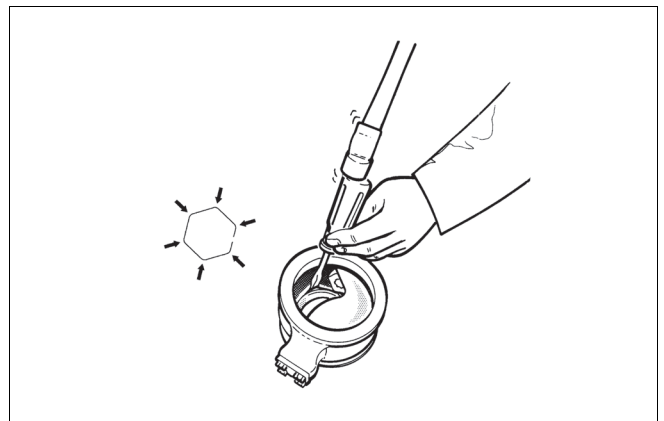
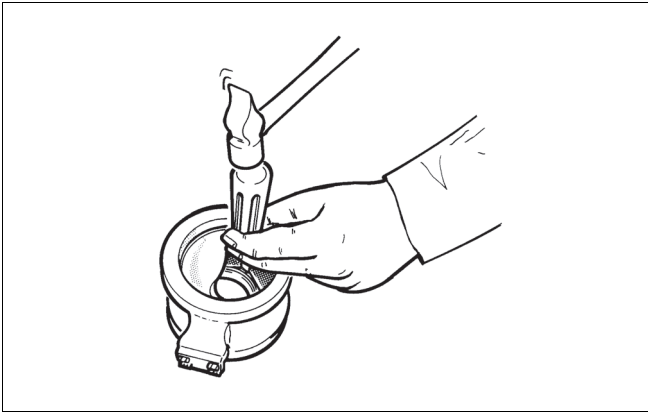

Fig. 20 Knocking the spring into the groove
Fig. 21 Knocking the spring after turning the seat around
- Place a screwdriver on each visible spring angle one after the other and knock the spring into the groove, see Fig. 20.
- Turn the segment 180° clockwise and knock the rest of the spring angles into the groove, Fig. 21. A special tool available from the manufacturer may also be used for the work phases in Figs. 20 and 21.